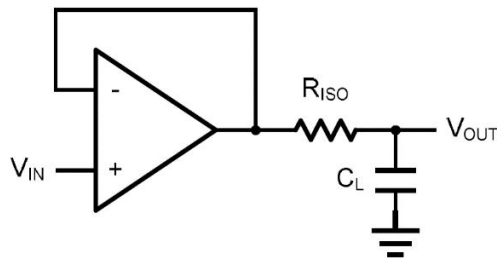
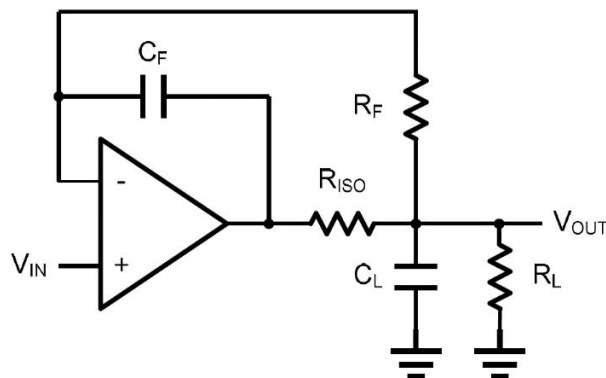

Figure 2. Indirectly Driving a Capacitive Load Using Isolation Resistor
Figure 3. Indirectly Driving a Capacitive Load with DC Accuracy
The CBM6001 family is optimized for bandwidth and speed, not for driving capacitive loads. Output capacitance will create a pole in the amplifier's feedback path, leading to excessive peaking and potential oscillation. If dealing with load capacitance is a requirement of the application, the two strategies to consider are (1) using a small resistor in series with the amplifier's output and the load capacitance and (2) reducing the bandwidth of the amplifier's feedback loop by increasing the overall noise gain. Figure 2 shows a unity gain follower using the series resistor strategy. The resistor isolates the output from the capacitance and, more importantly, creates a zero in the feedback path that compensates for the pole created by the output capacitance.
The circuit in Figure 3 is an improvement to the one in Figure 2. R_F provides the DC accuracy by feed-forward the V_{IN} to R_L . C_F and R_{ISO} serve to counteract the loss of phase margin by feeding the high frequency component of the output signal back to the amplifier's inverting input, thereby preserving the phase margin in the overall feedback loop. Capacitive drive can be increased by increasing the value of C_F . This in turn will slow down the pulse response.